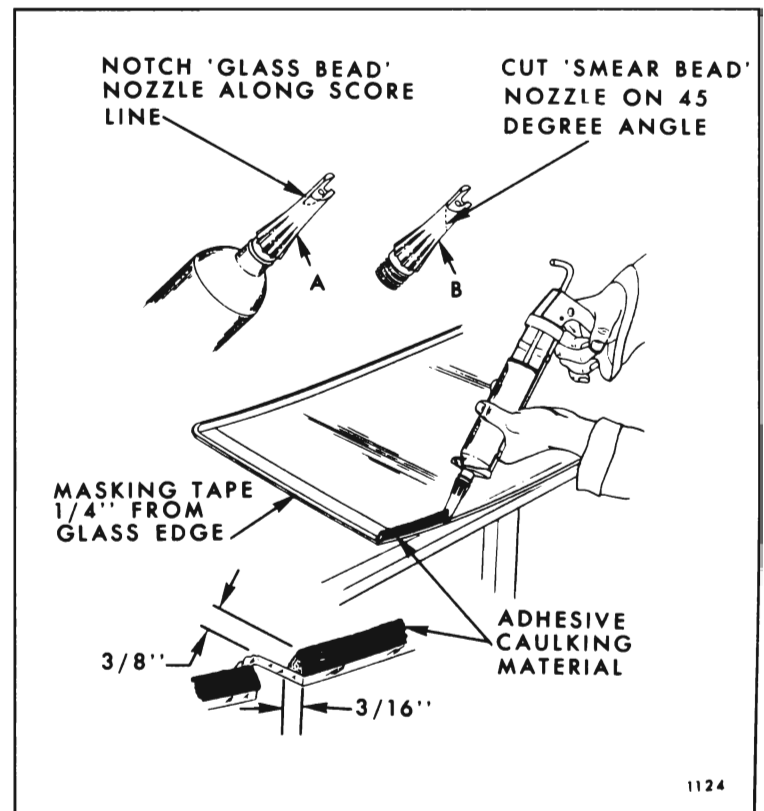

Fig. 5-11—Adhesive Caulking Material Application - Extended Method
8. Apply one inch masking tape completely around inner surface of glass 1/4" inboard from outer edge (see Fig. 5-11). Removal of tape after glass installation will aid in clean-up and give a smooth even edge to adhesive material.
11. Positioning gun and nozzle as shown in Figure 5-11, carefully apply a smooth continuous bead of caulking material $3/8''$ high by $3/16''$ wide at base completely around edge of glass.